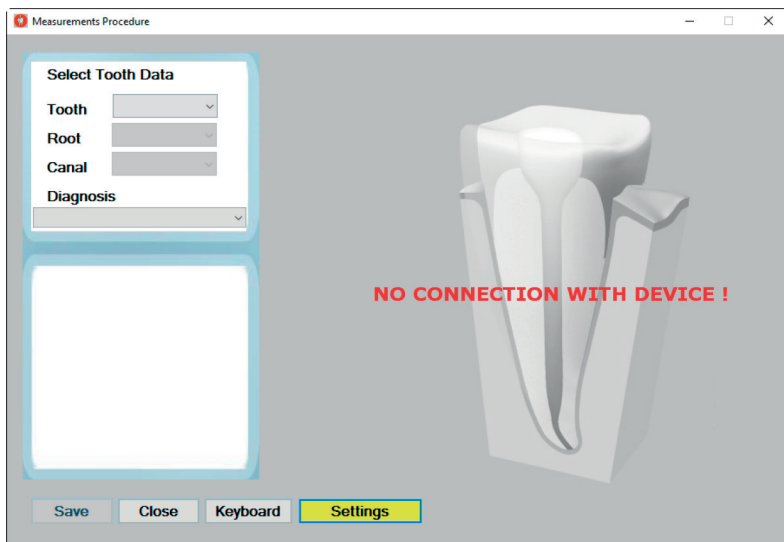

Fig. 14
4. Press button **Settings** to setup software for first time using. (Fig. 14)